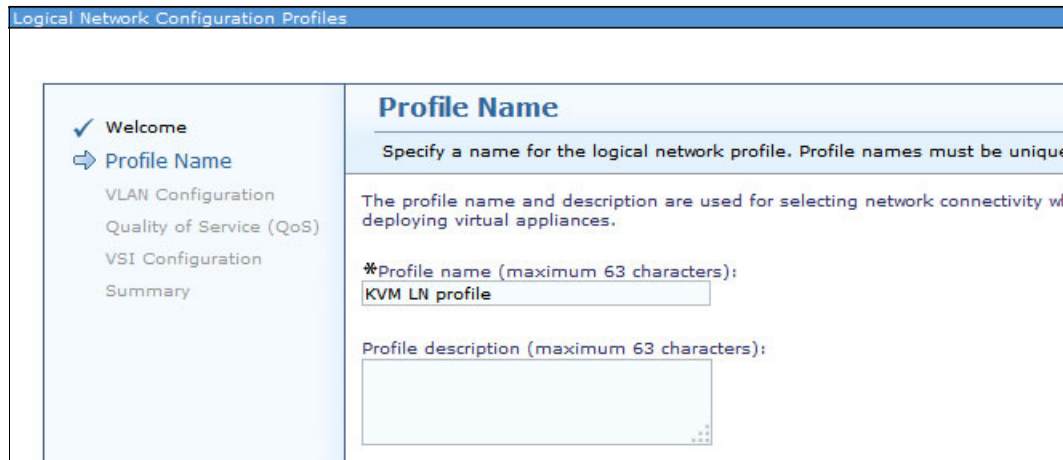

Figure 9-70 Logical network profile: Profile Name
- On the Profile Name page, enter profile name and, optionally, a profile description, as shown in Figure 9-70. Click **Next**.